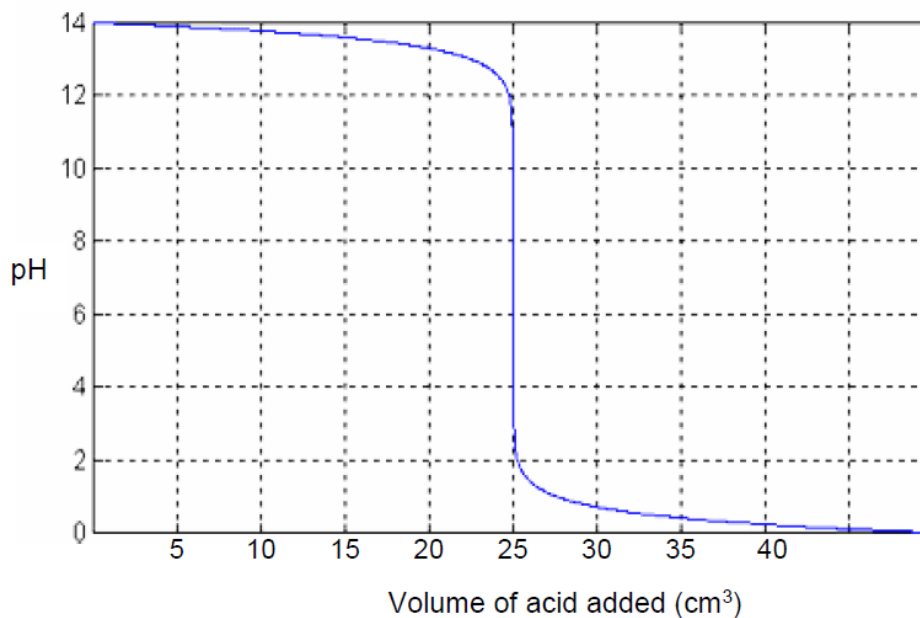

Fig 2.4
- (b) Fig 2.4 below shows how pH values changed during a titration when an acid was added from a burette into an alkali. A few drops of elderberries extract were added at the start of titration to monitor the pH of the solution.